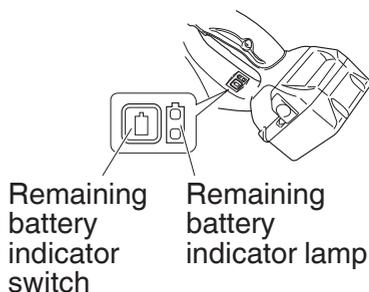

Fig. 20
- (Fig. 20) When releasing your finger from the remaining battery indicator switch, the remaining battery indicator lamp goes off. The **Table 4** shows the state of remaining battery indicator lamp and the battery remaining power.